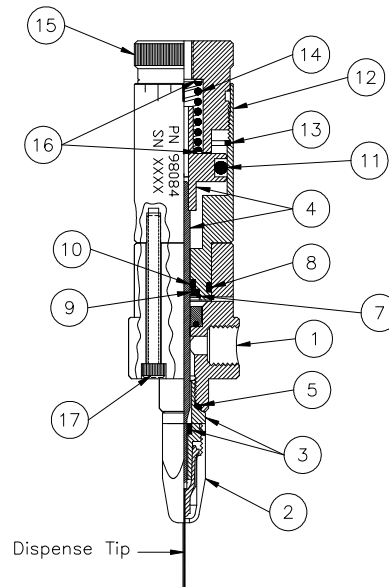

Figure 5
Disassembly, Refer to Figure 5.
Reassembly, Refer to Figure 5.
**Notice:** To prevent possible damage to seal components, please follow these instructions in the following sequence. Refer to Figure 5.
3. Unscrew the needle retaining cap (2) and remove the dispense needle.
4. Remove the three screws (17).
5. Pull the valve housing (1) away from the air cylinder (12).
6. Remove the luer adapter assembly (3) from the valve housing (1).
7. Clean and inspect the needle rod (4) and luer adapter assembly (3) for wear and damage. Replace parts as necessary.
8. Replace O-ring (8), if necessary. Make sure to lubricate new O-ring with silicone grease (997569).
9. Remove the end cap (15) by turning counterclockwise.
10. Carefully remove the spring (14) and the two nylon washers (16).
Refer to Figure 5